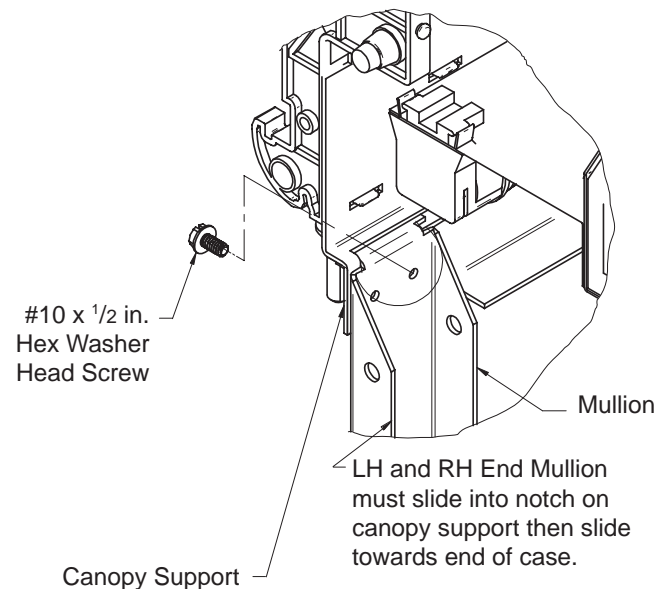

Figure 11-2
A. Slide bottom back side of end mullions into bottom rail (1.). Tilt top of mullion toward inside of case to engage bottom lip of mullion into extrusion (2.), see Fig. 11-1. Fasten top of mullion to canopy support as shown in Fig. 11-2 with #10 screws.